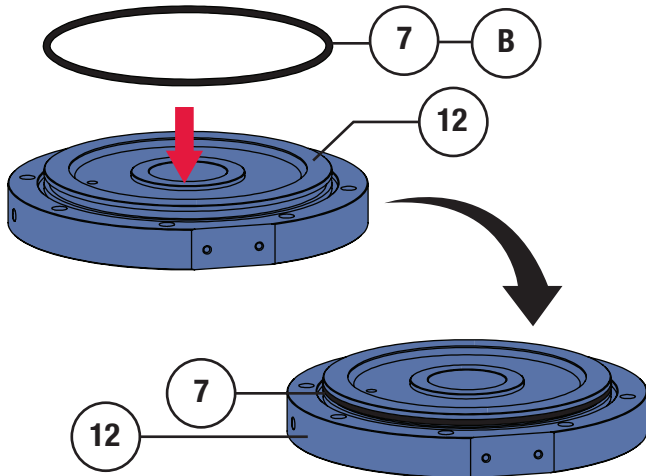

Figure 26 Cylinder Plate O-Ring Installation
- 1 Apply Dow Corning Molykote® 5 (Key B) to the o-ring (Key 7) and install it into the o-ring groove of the cylinder plate (Key 12) as shown in Figure 26.